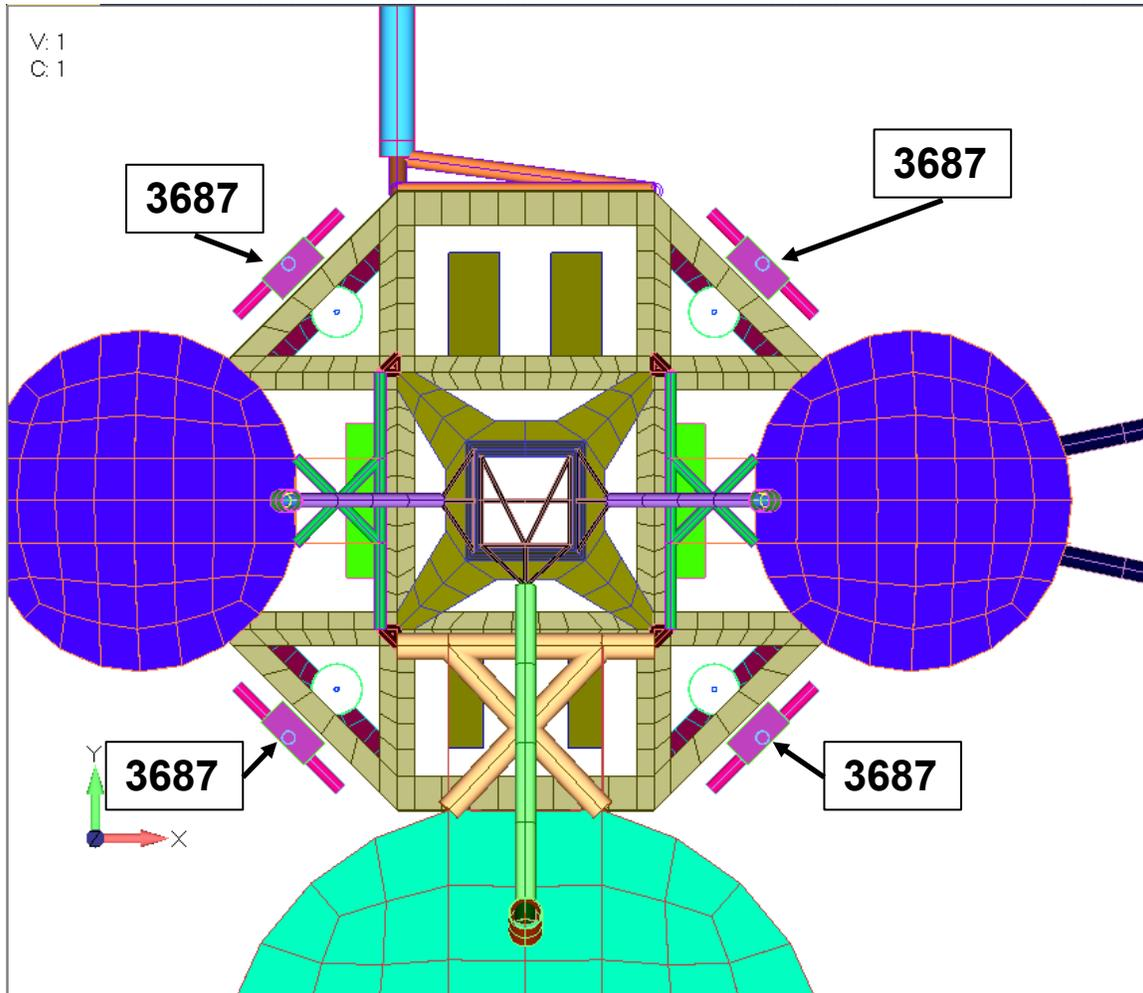
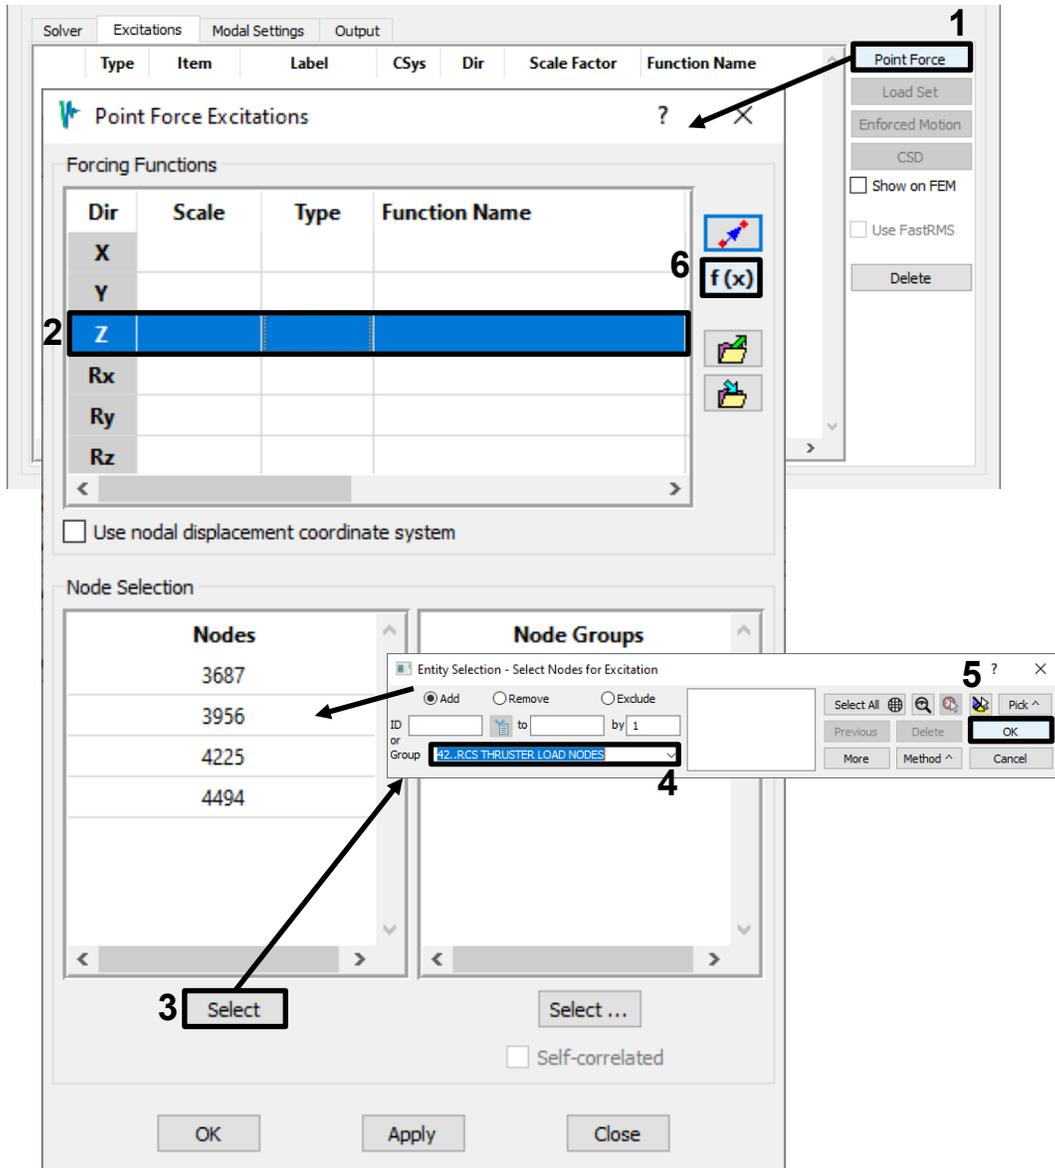

Figure 4-91. Nodes for RCS thruster loads.
Figure 4-92. Use the Point Force dialog to assign a Z-direction force to each thruster node.
- The RCS system will fire a pulse to translate the spacecraft along its Z-axis, let it drift for half a second, then fire a reverse pulse to stop its translation. We will simulate this by applying a point-force excitation at each RCS thruster node (Figure 4-91). On the Excitations tab, bring up the Point Force dialog (Figure 4-92). Select the individual thruster nodes as shown, highlight the Z-direction row in the Functions table, and click **f(x)** to bring up the Function Manager.